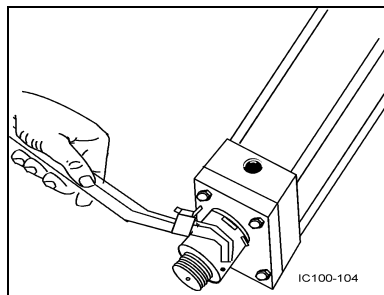

Figure 1 - Gland Wrench
End cylinder pressure switch (PS1) (Figure 1, item 11) sets pressure needed to activate end cylinder pressure delay timer (TDR-1) (item 12) in auto mode. End cylinder pressure switch is located under press table behind filter.
Head Down/Up Cylinders (Figure 1, item 19) are mounted on opposite sides of Bacon Press. Socket head screws on both cylinders should be adjusted equally.